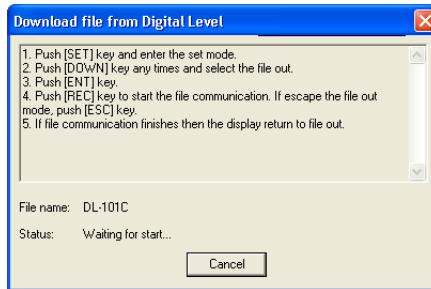

Figure 3-47. Digital Level Instructions – Preparing for Import
8. Select the desired file in the Total Station to download to the computer (Figure 3-47).